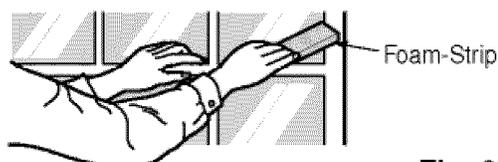

Fig. 8
- 8 Cut the Foam-strip to the proper length and insert between the upper window sash and the lower window sash.(See Fig. 8)